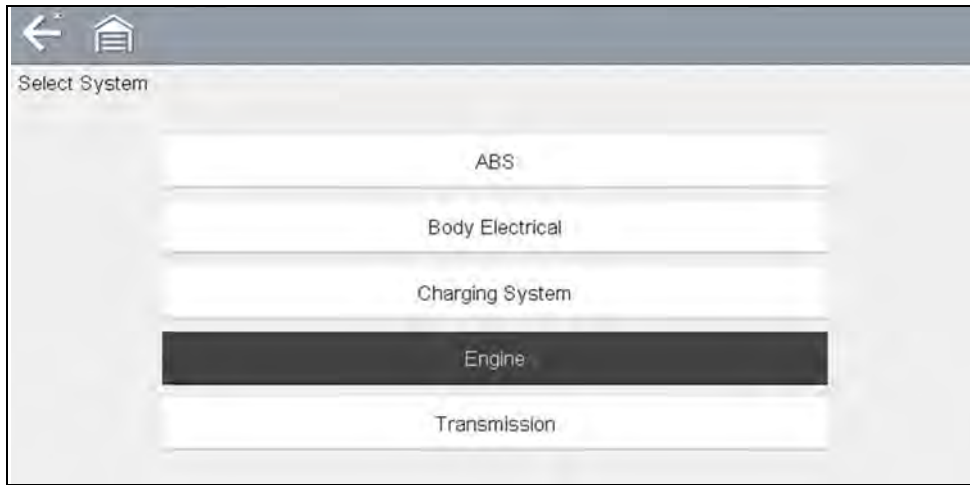

Figure 9-3 Systems Menu
1. Select a system from the list (Figure 9-3).